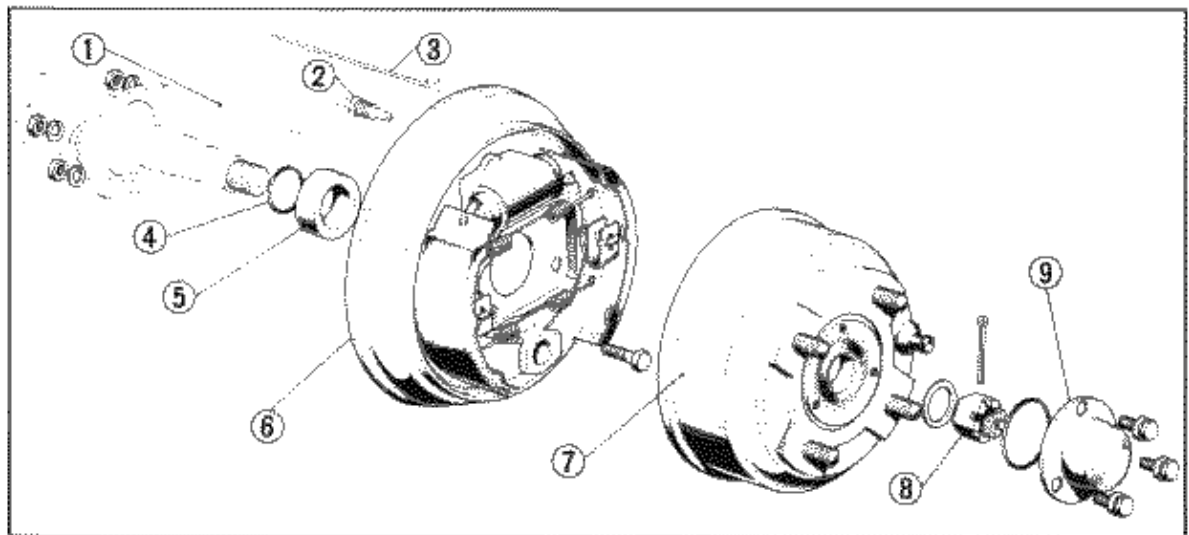

Fig. 12-5
- * To install the rear brake, reverse the removal procedure. See Figs. 12-5 and 12-6 for the torque specifications.